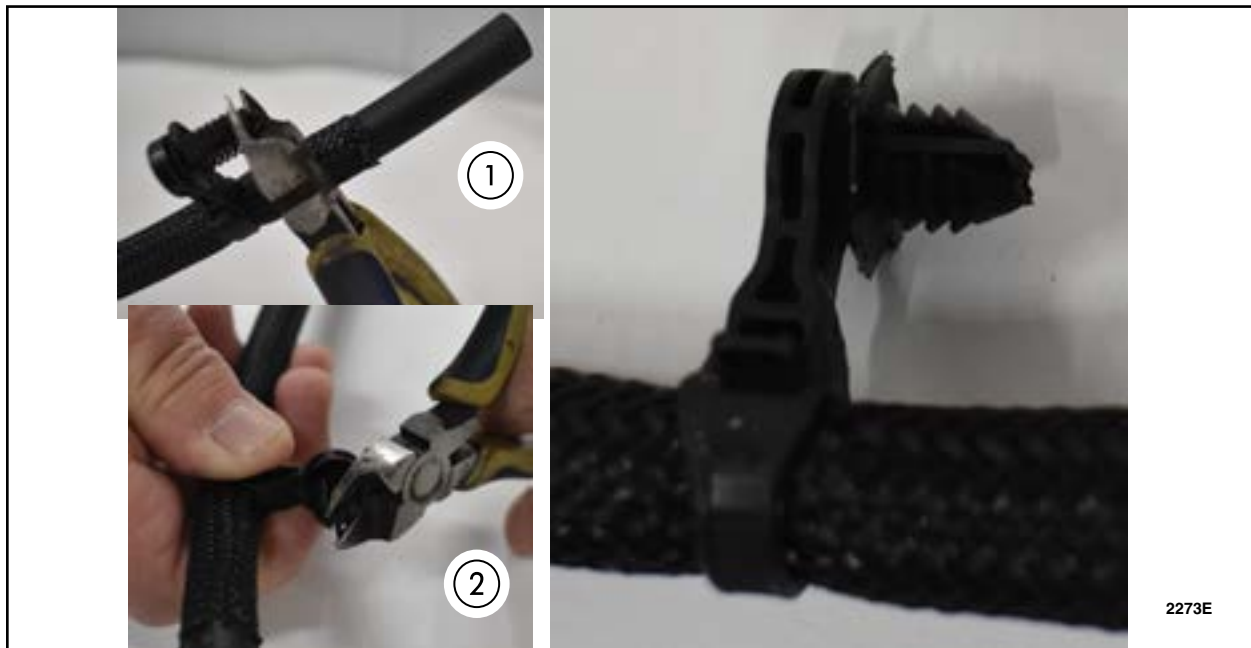

FIGURE 6
20. Cut the tip from fir tree fastener at the end of the tube. Trim the sides of the top 2 barbs at a 45-degree angle on the fir tree fastener to more easily allow fitment through the subframe hole. See Figure 6.